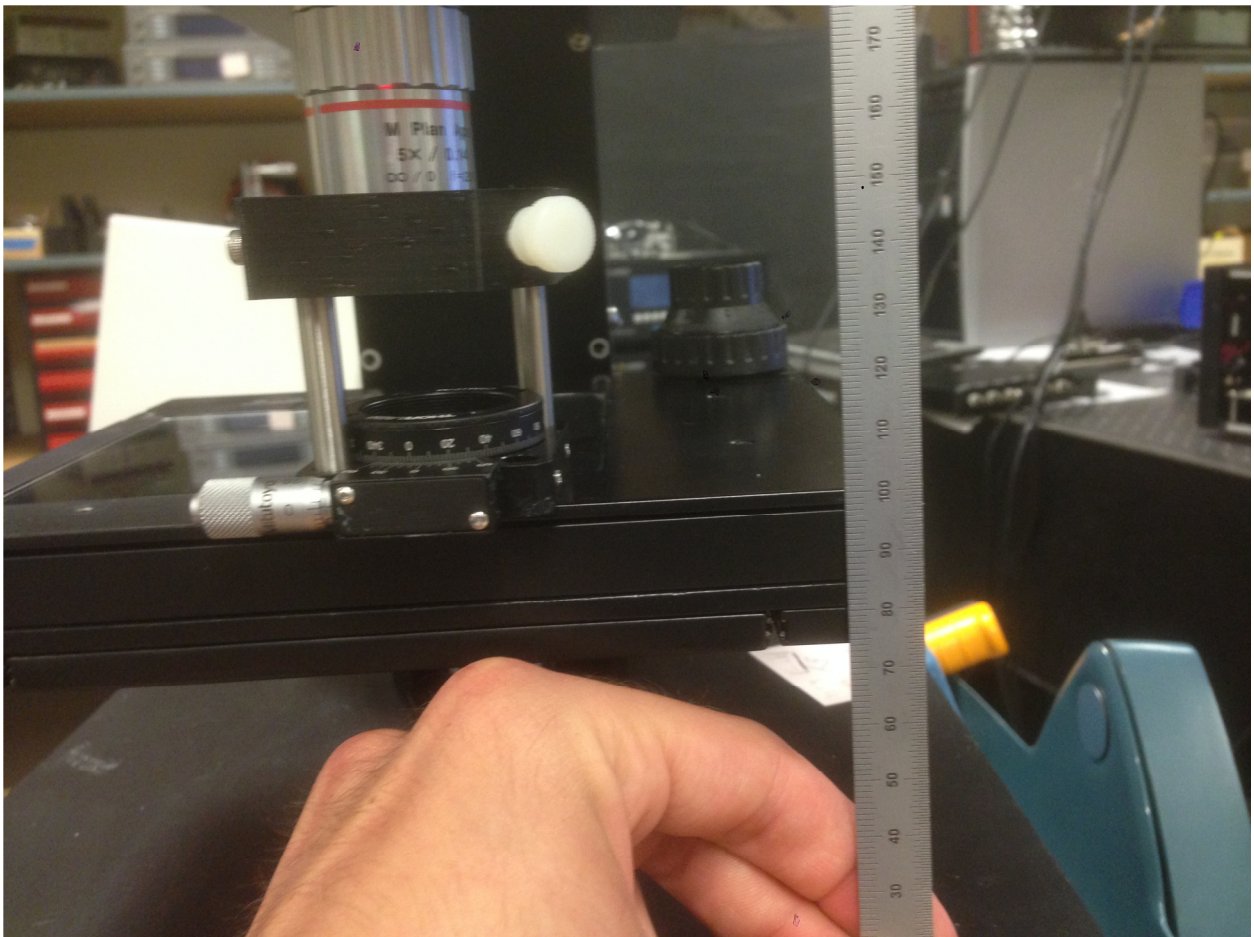

Figure 19.
1. First, make sure the stage is level. Measure each edge of the stage as shown in Figures 19 and 20. The stage will move slightly with light to moderate pressure. If it isn't possible to make the stage level, remove the panel behind the stage with a M3 hex wrench, then loosen the stage, level it, and retighten the screws. Check to make sure the stage is level again after retightening the screws.